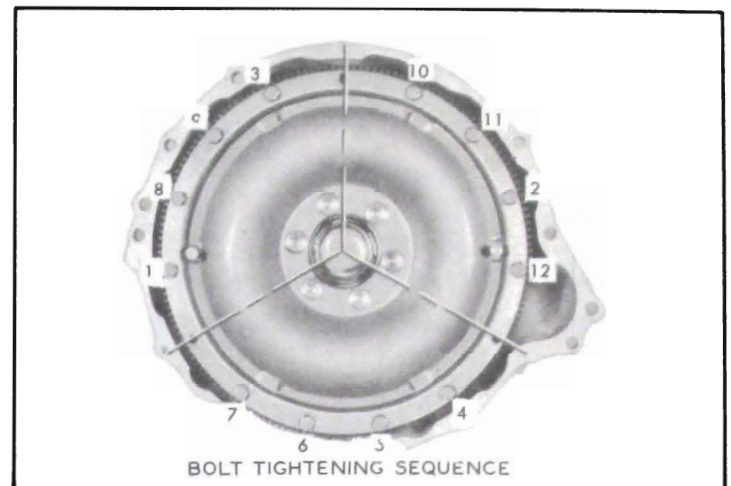

Figure 5-108—Bolt Tightening Sequence
20. Install bolts with lock washers in all but the three driving bolt holes, insert the shank of a  $1\frac{1}{32}$ " drill through one bolt hole to align all holes, then tighten bolts to approximately 5 ft. lbs. torque in numerical sequence shown in figure 5-108. Finally tighten bolts in same sequence to 25-30 ft. lbs. torque.